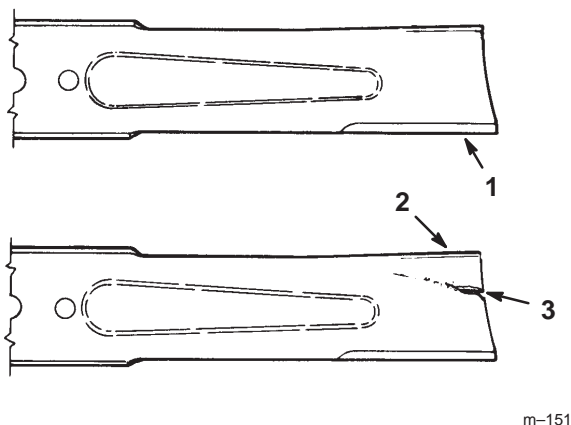

Figure 39
1. Inspect the cutting edges (Fig 39). If the edges are not sharp or have nicks, remove and sharpen the blades. Refer to Sharpening the Blades on page 32.
2. Inspect the blades, especially the curved area (Fig. 39). If you notice any damage, wear, or a slot forming in this area (item 3 in Fig. 39), immediately install a new blade.